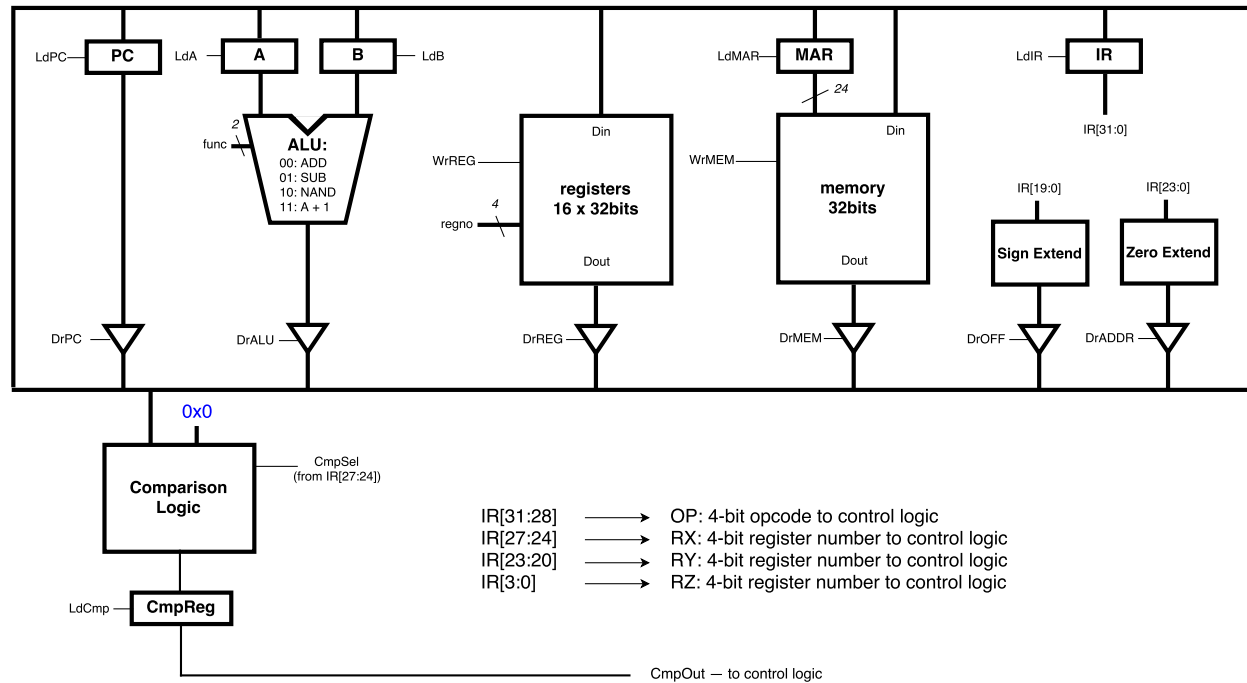

Figure 1: Datapath for the Conte-200 Processor
2. Using Brandonsim, implement the Conte-200 datapath. To do this, you will need to use the details of the Conte-200 datapath defined in Appendix A: Conte-200 Instruction Set Architecture. You should model your datapath on Figure 1.
The “comparison logic” box in Figure 1 is responsible for performing the comparison logic associated with the SKP instruction. The comparison logic should read the current value on the bus plus the mode bits from the IR. When executing SKP, you should compute  $A - B$  using the ALU. While this result of the ALU is being driven on the bus, the comparison logic should read the result  $A - B$  and output a single “true” or “false” bit for either the condition  $A \neq B$  or  $A \leq B$  depending on the mode input.
2. Implement the Microcontrol Unit using Brandonsim. The appendix contains all of the necessary information. Take note that the input and output signals on the schematics directly match the signals marked in the Conte-200 datapath schematic (see Figure 1).
3. Connect the completed control unit to the datapath you implemented in Phase 1. Using Figures 1 and 2, connect the control signals to their appropriate spots.